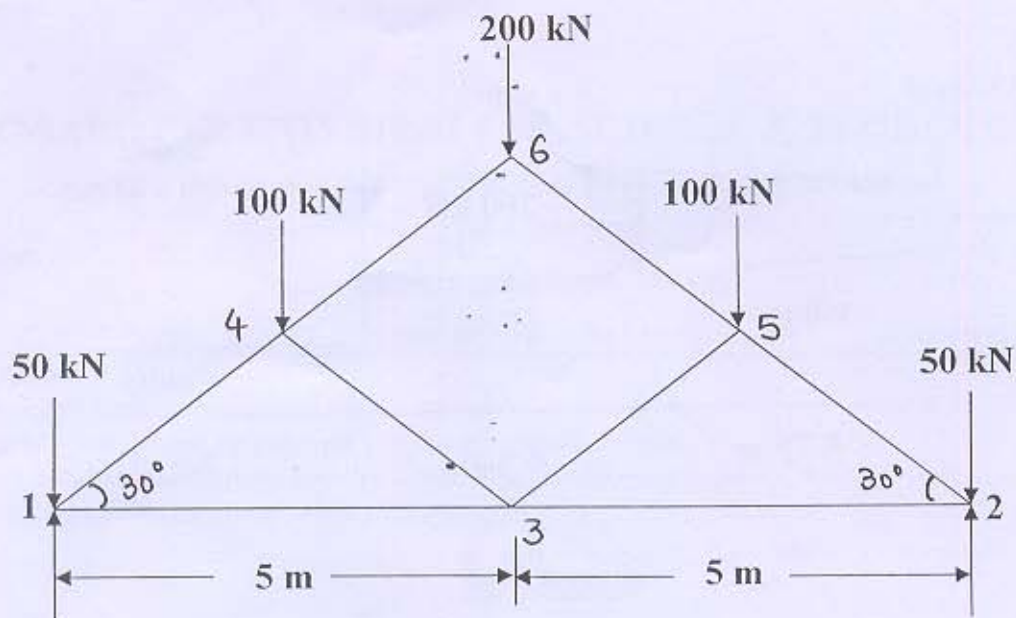

Fig. 1
- Q - 1 Determine the forces in all members of a truss shown in Fig. 1. [07]